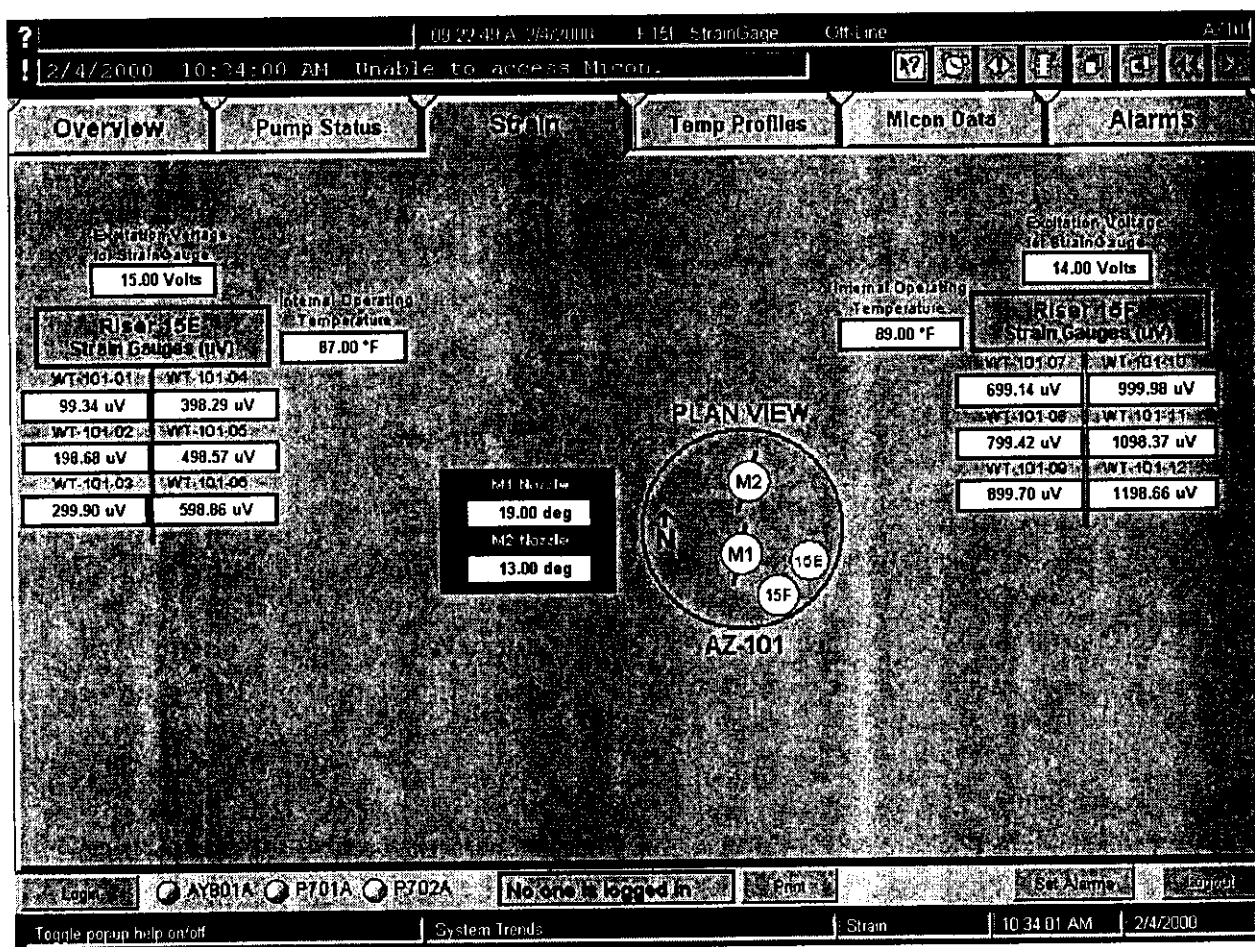

FIGURE 6
- "STRAIN" (Figure 6)
This screen (Figure 6) displays the strain gauge data. The gauge monitors the response to forces exerted on the temperature profile trees inserted into the tank through risers 15E and 15F.